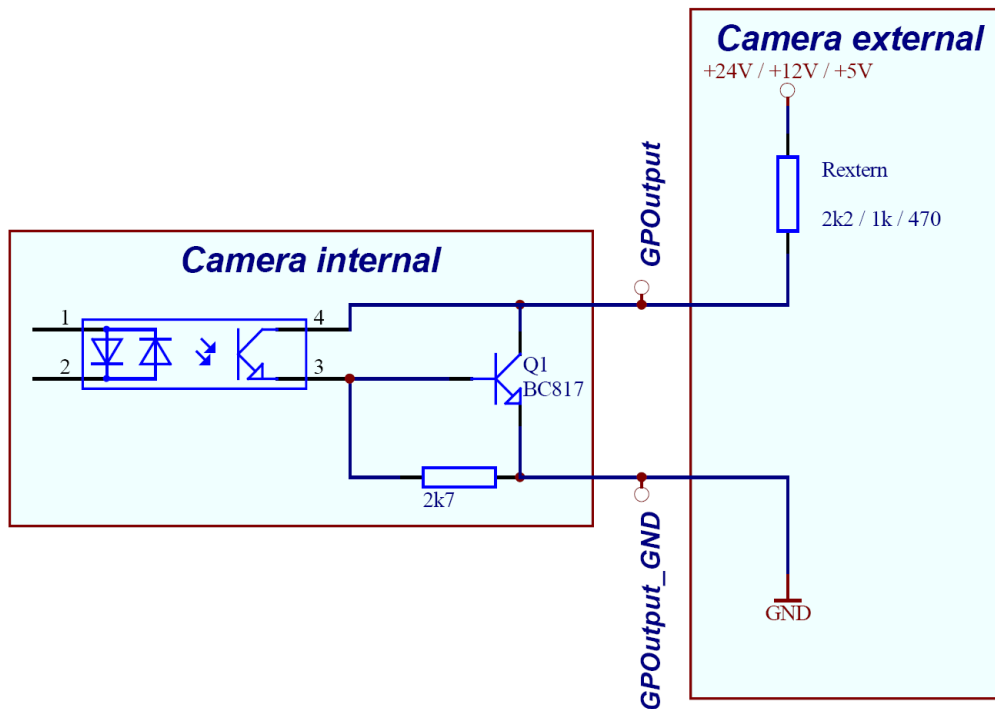

Figure 28: Output schematics with external resistor R (DOLPHIN)
- Depending on the voltage applied at OutVCC and the type of input which you want to drive, it may be necessary to switch an external resistor in series. See Figure 28: Output schematics with external resistor R \(DOLPHIN\) on page 53.